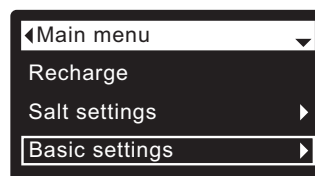

FIG. 98
1. From any of the rolling status screens, press the SELECT (O) button to display the **Main menu**.
2. Press the DOWN (▼) button to scroll through the menu options until **Basic settings** is highlighted (See Figure 98).